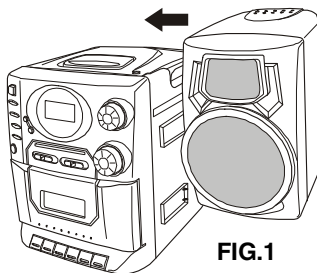

FIG.1
**NOTE:** The right and left speakers are **NOT** interchangeable. The right speaker fits **only** on the right side (as shown in FIG. 1). The left speaker fits **only** on the left side.